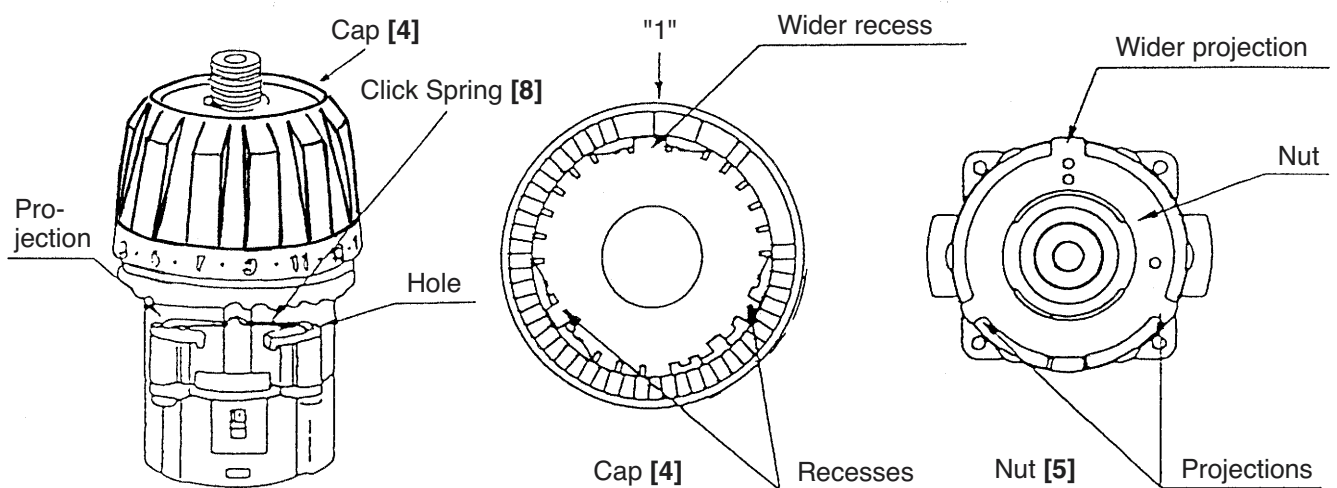

Fig. 12
- (c) Install the Click Spring [8] and the Cap [4] on the assembly reassembled in step (b). (See Fig. 12.)